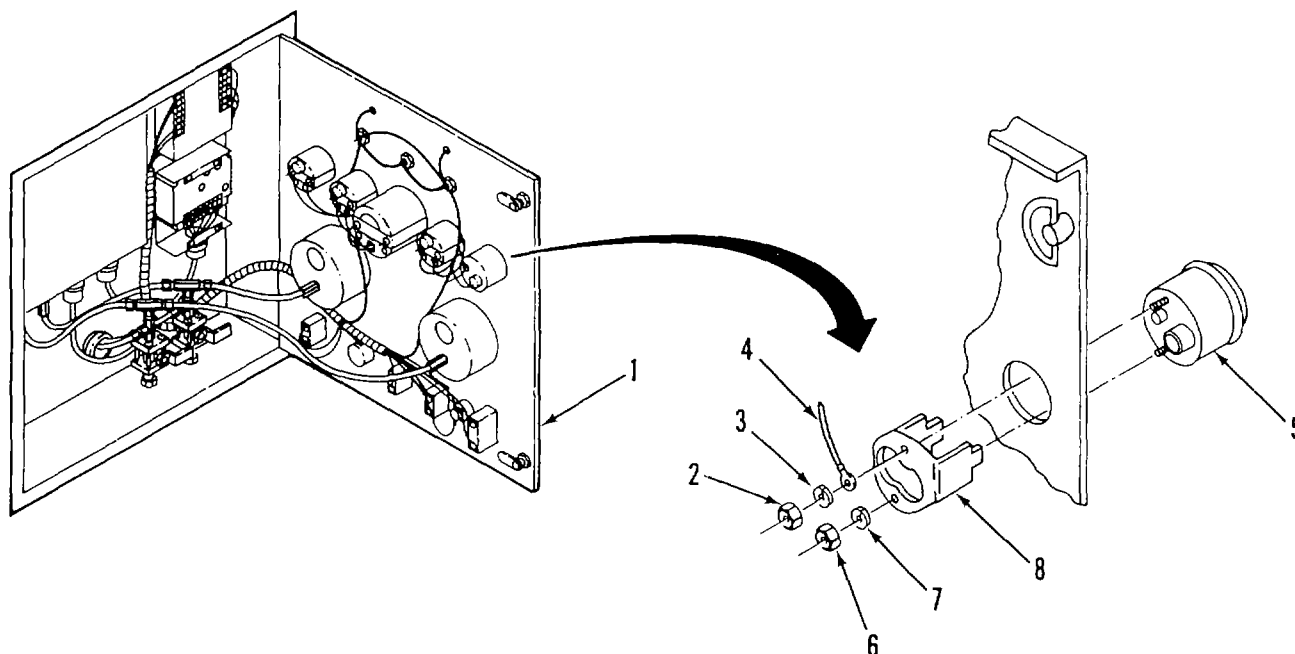

Figure 2-7. Engine Volts Meter
a. REMOVE. (Figure 2-7)
(1) Open control panel door (1).